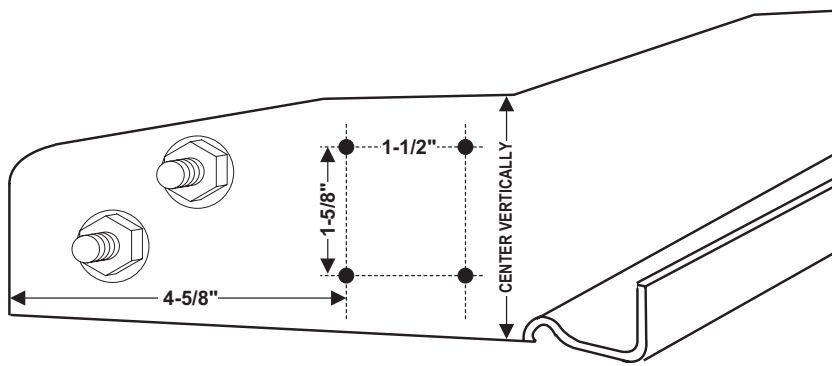

FIG. 2 MOUNTING MEASUREMENTS
3. Mark off the other two mounting holes 1-1/2 inches directly across from the first two as shown in figure 2. You may want to use a level to be sure that these two holes line up with and are square with the first two.